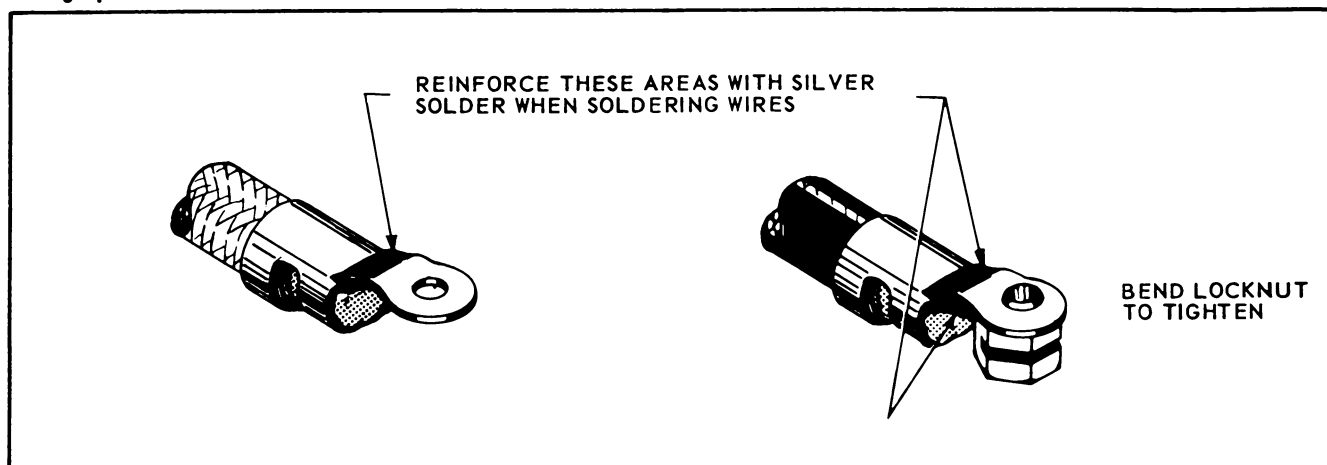

Figure 6-13. Reinforcing Solder on "AN" 5539 Terminals
- When solder has flowed down into wire grip, remove flame and allow joint to cool without disturbing it. Note that AN 5539 terminals require reinforcement with silver solder at indicated areas. See Figure 6-13.